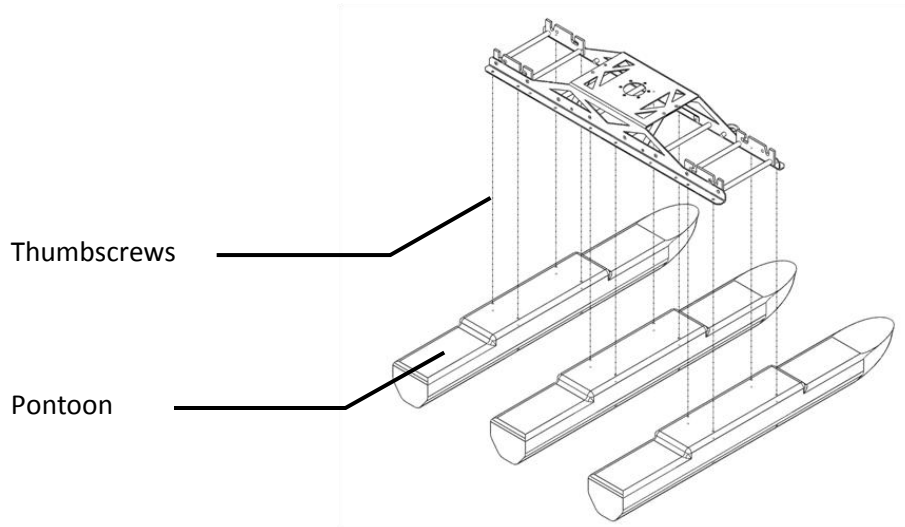

Figure 8: Pontoons to Main Frame
1. Attach the three pontoons to the main frame, using four thumbscrews per pontoon, as shown in Figure 8.